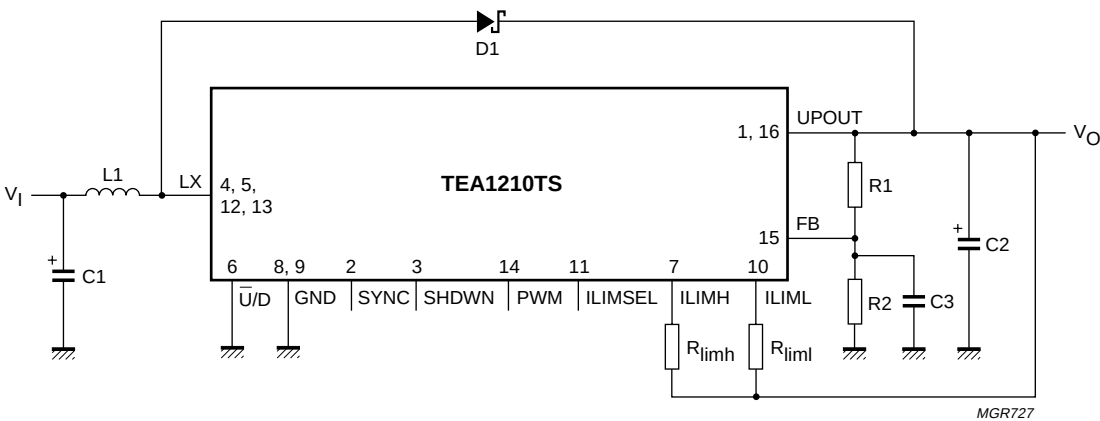

Fig.5 Complete application for upconversion.
3. The quiescent current is specified as the input current in the upconversion configuration at $V_1 = 2.40$ V and $V_O = 3.60$ V, using $L_1 = 6.8$ μ H, $R_1 = 178$ k Ω and $R_2 = 93.1$ k Ω (see Fig.5).